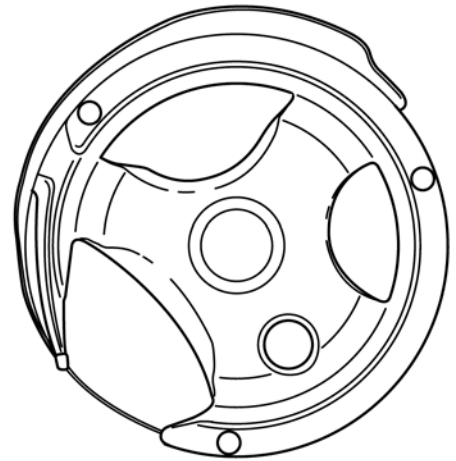

Fig. 63
- Turn the handwheel until the opening of the sewing hook faces to the left (fig. 63).